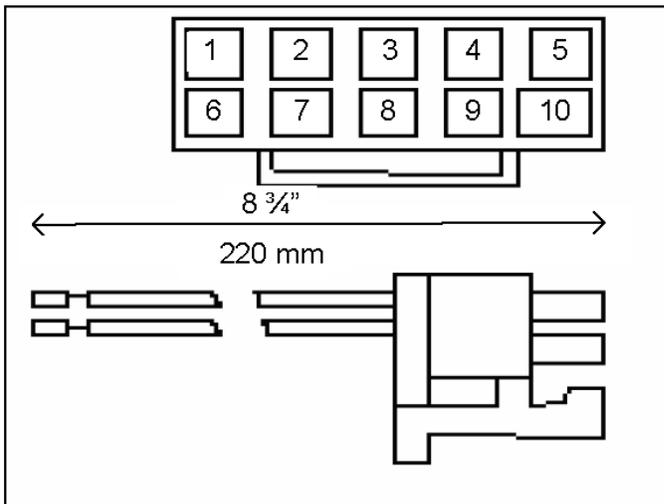

Figure 8 E528.4G to 2G standalone application
- Using the adapter (P/N 203-013) connect the harness from the wall box (P/N 62-1462) previously connected to the thermostat being replaced to H1 of the adapter (see Figure 8).
Figure 8 shows the pinout for the 10-position Molex male connector supplied with all relay output models of the thermostat. The end view of the male connector from the wire insertion side with the pin numbers is indicated. This is the same as looking at the female connector point on the back of the e528.
RS485 centrally controlled system), door/window switch, or external PIR wiring within the electrical box (Figure 8). Plug the 6-pin low voltage harness onto the e528 low voltage comm. / device connection header.